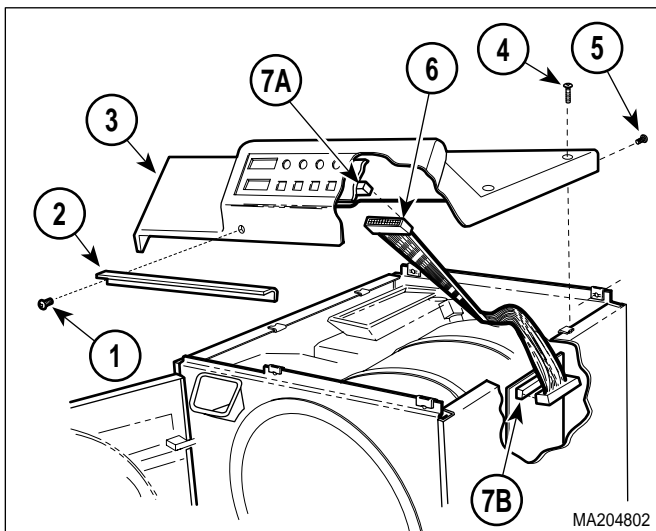

Figure 4-1. Top Cover Removal / Installation
- (1) Disconnect power cord from the outlet.
- (2) If the sterilizer contains a printer, remove printer (Refer to Operation Manual).
- (3) Open sterilizer door.
- (4) Remove two screws (1, Figure 4-1) and steam block (2) from top cover (3).
- (5) Remove four screws (4) and two screws (5) from top cover (3).